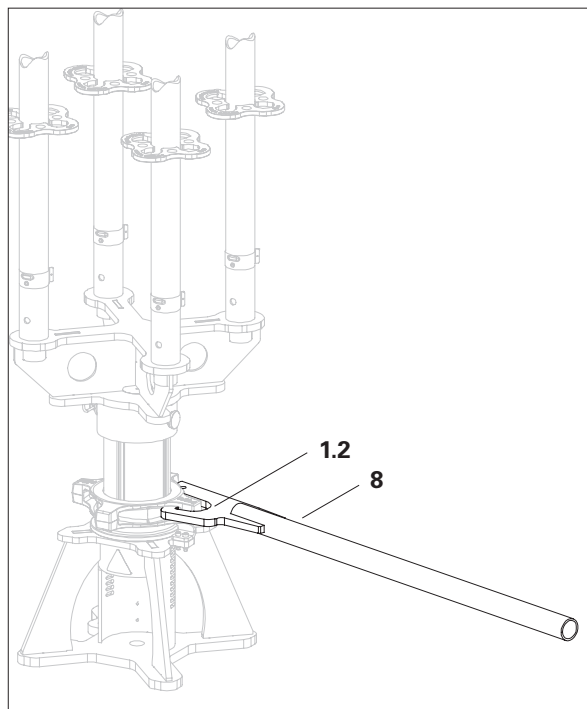

Fig. A5.10a
1. Turn adjusting nut (1.2) upwards with Wingnut Spanner HD (8). (Fig. A5.10a)